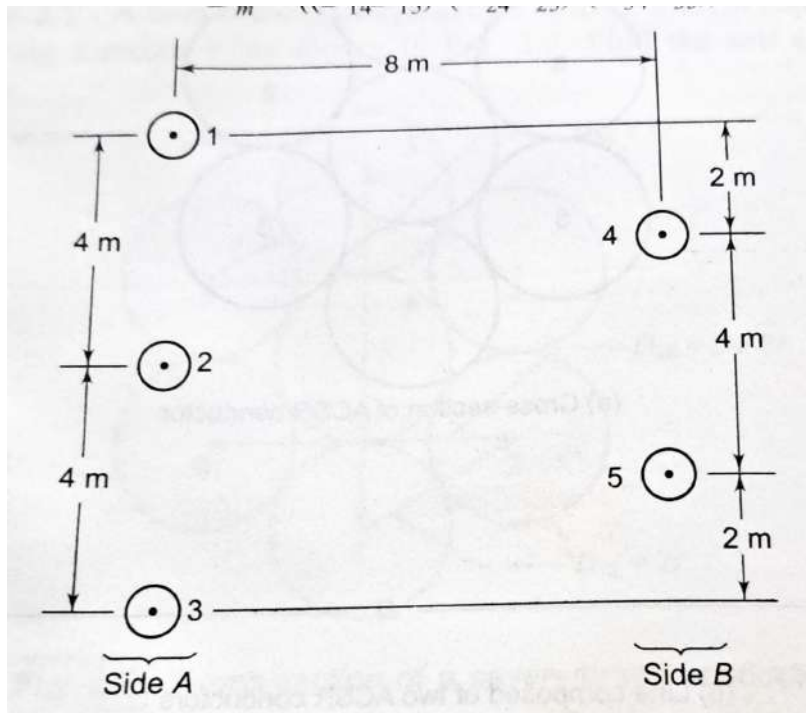

Figure 2: Pertaining to inductance of composite conductors
3. The arrangement of conductors of a single-phase transmission line is shown in Fig. 2 wherein the forward circuit is composed of three solid wires 2.5 mm in radius and the return circuit of two wires of radius 5 mm placed symmetrically with respect to the forward circuit. Find the inductance of each side of the line and that of the complete line.